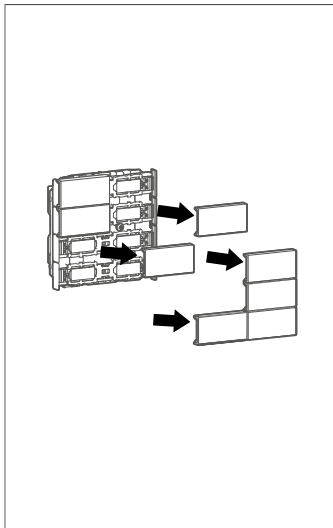

Fig. 19: Removing the buttons
- 1 Remove the buttons from the push-button module (see Fig. 19).